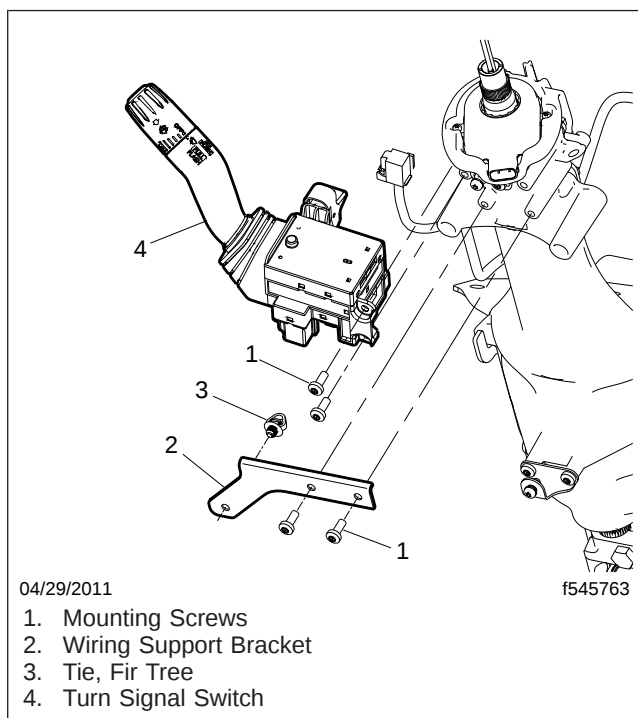

Fig. 3, New Turn Signal Switch Installation
8. Install the wiring support bracket (06-83353-000) on the steering column cover. See Fig. 3.